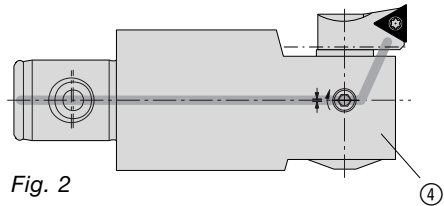

Fig. 2
- the tools are equipped with internal coolant feed ④ to the cutting edge (Fig. 2)